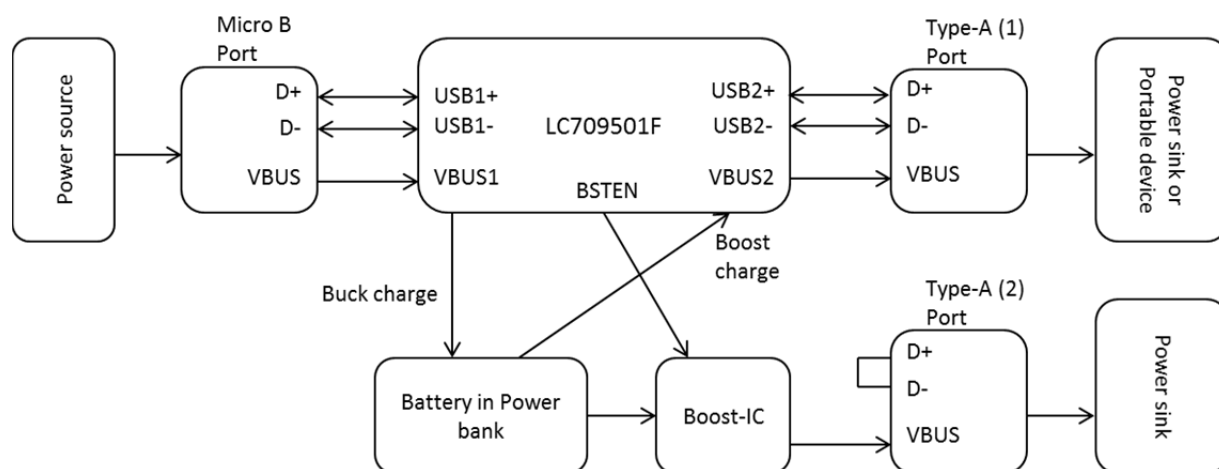

Figure 6: The function of FW01 & FW02
The Relationship between the Firmware and the USB port functions is shown in Table 4 and Figures 6, 7, and 8. USB1+/- port of FW01/FW02 is a power sink. This port is an input for Buck charge. And it contains functions of BC1.2 and divided mode. USB2+/- port is a power source. This port is an output for Boost charge. Portable device communication and Quick Charge 3.0 are only enabled in USB2+/- port. Another power source that is Type-A (2) is boosted by an external Boost-IC. This device runs the Boost-IC when it detects the plug insertion to Type-A (2).